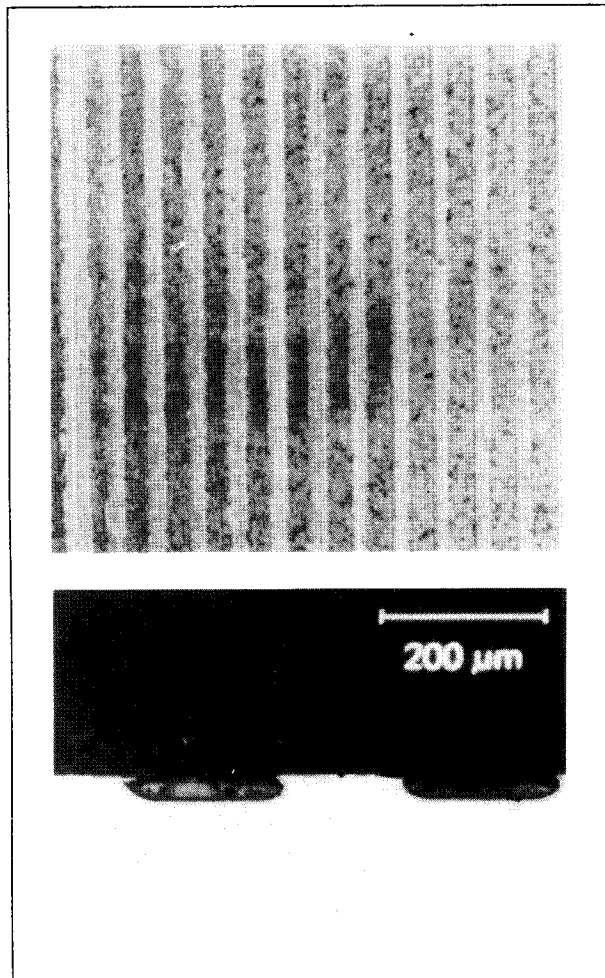
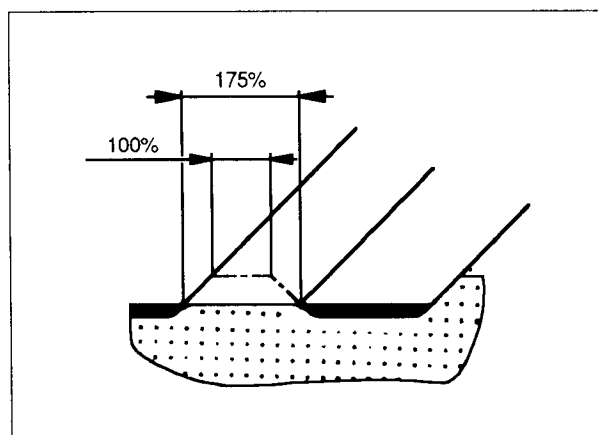

Fig. 6.
Fig. 7.
**Condition:** The bearing shell is locally so worn, that the ratio between the light-alloy metal and the overlay is 1:1, see fig. 6. The width of the light-alloy metal has increased from 100 % (new bearing shell) up to 175 %. In the slots some overlay is still left, see fig. 7.